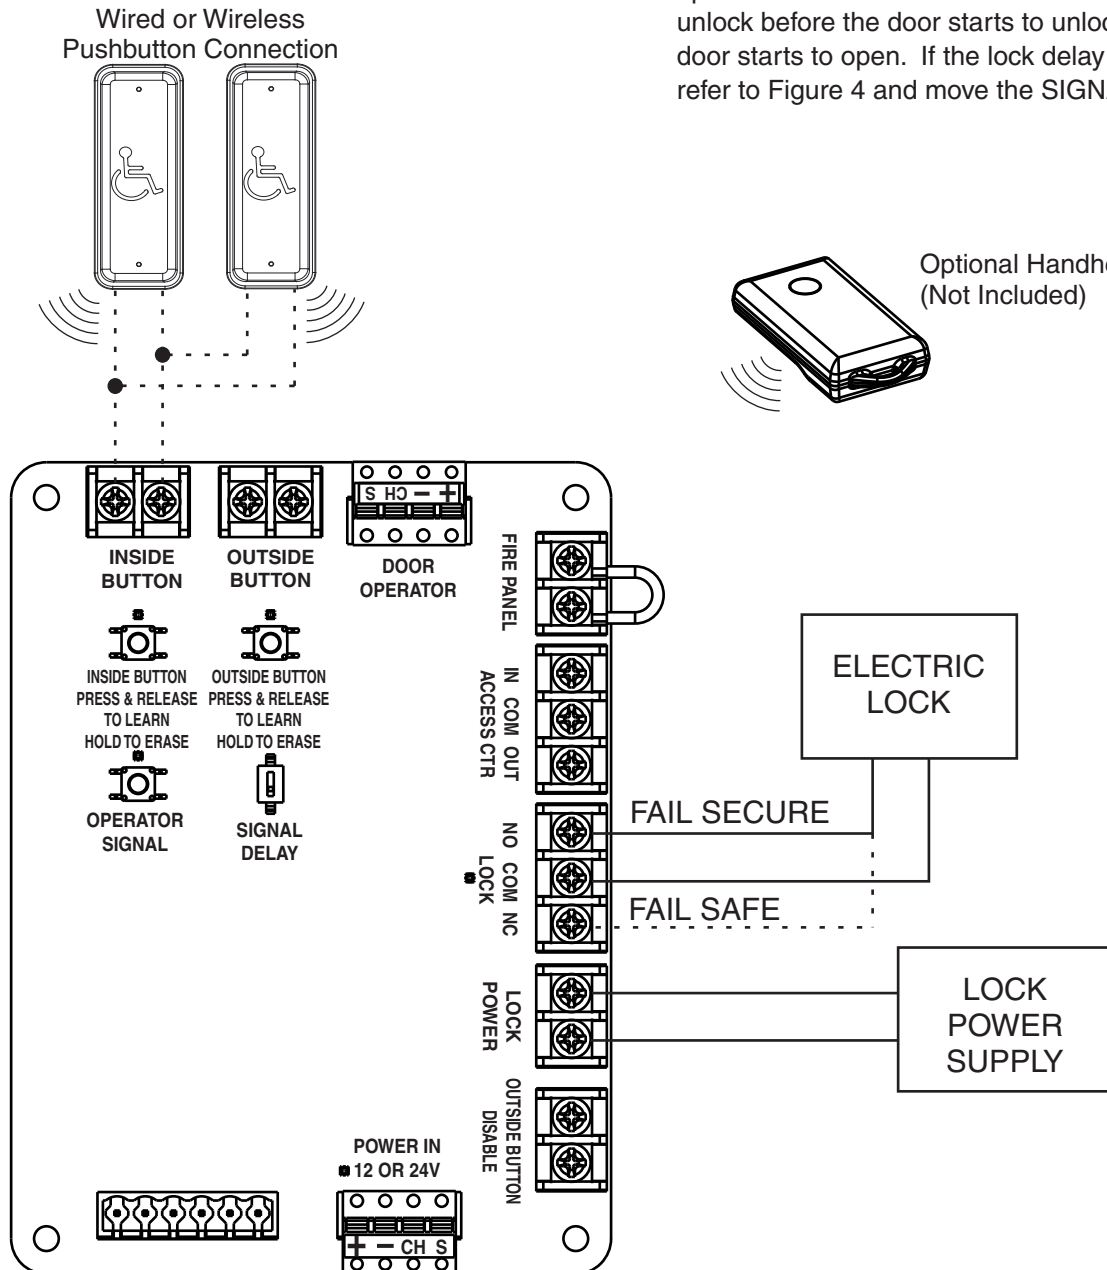

Figure 5
1. An electric lock may be connected to the WIM as shown in Figure 5.
2. A normally open or normally closed contact are provided for fail safe or fail secure lock installation. Connect the lock and power supply to the WIM as shown in Figure 5.